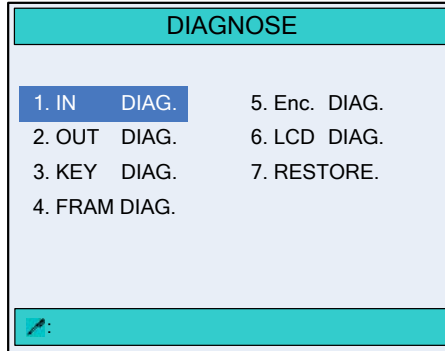

Figure 4-1 The **DIAGNOSE** page
**Step 3** Move the cursor to parameter **mm/inch** or **中文/English**, enter the password **5656**, and press  to enter the **PARAMETER SET** page, as shown in Figure 4-1.